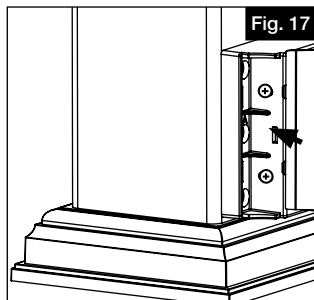

Fig. 17
- Match letter on inside of bracket cover to the letter on bracket, and snap cover in place. Repeat for all brackets (Fig. 17).